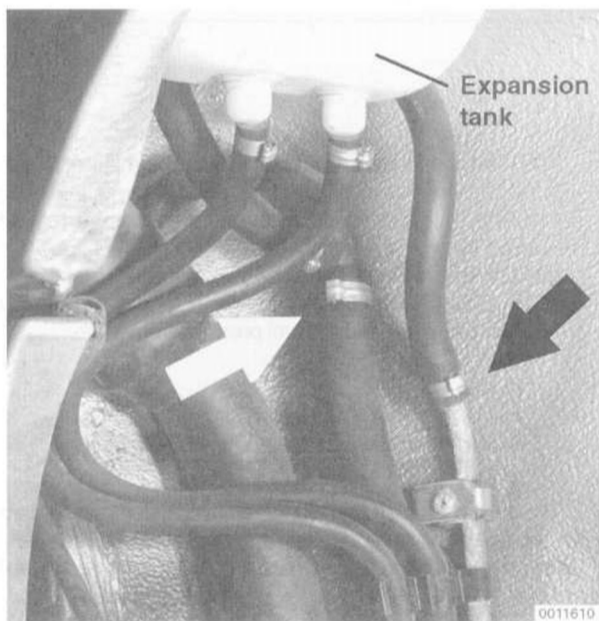

Fig. 3. Expansion tank vent hoses and bolts to be removed (arrows)
6. Remove the wheel housing trim from the right rear wheel housing. Then disconnect the two vent hoses from the expansion tank and remove the expansion tank mounting bolts. See Fig. 3.